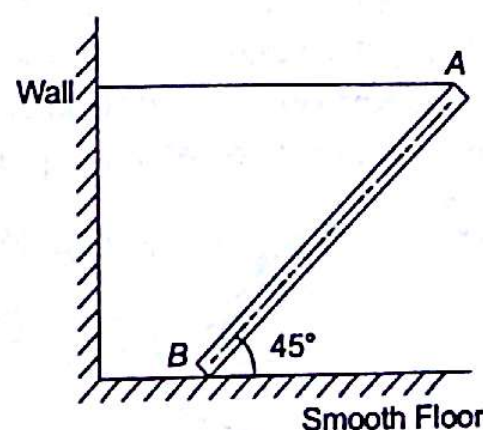

Fig. 17.10
- 17.1 A bar AB of mass m and length l is held in position as shown in Fig. 17.10 by a horizontal string attached to the wall. If end B is placed on smooth floor and if the system is released in the position shown, determine (i) instantaneous acceleration of end B of the bar, (ii) tension in the string, (iii) normal reaction at B .